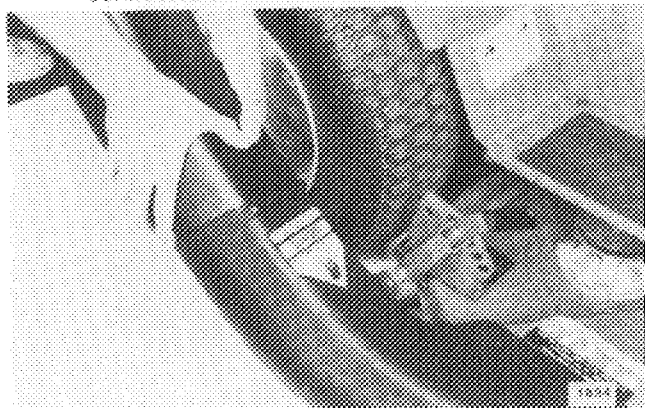

FIG. 13. Discharge Tube Removal
1. Remove discharge tube by compressing tube lock with both thumbs (Fig. 13). Remove discharge elbow. Discharge tube and discharge elbow may be left connected and removed as a unit.